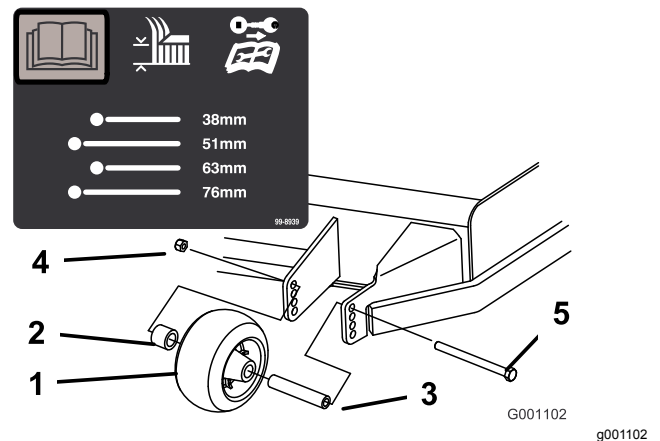
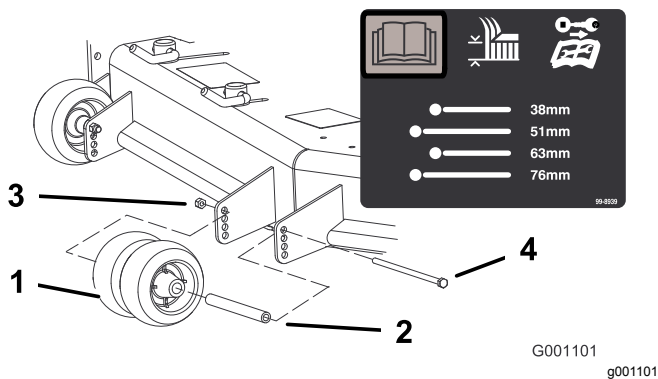
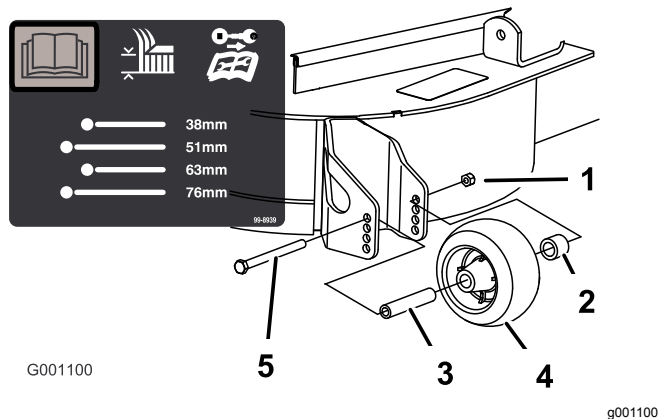

Figure 31
Figure 32
Figure 33
3. After adjusting the height of cut, adjust the rollers by removing the flange nut, bushing, spacer, and bolt (Figure 31, Figure 32, and Figure 33).
Note: The 2 middle rollers do not have a spacer (Figure 32).
5. Install the flange nut, bushing, spacer, and bolt. Torque the bolt to 54 to 61 N·m (40 to 45 ft-lb) (Figure 31, Figure 32, and Figure 33).